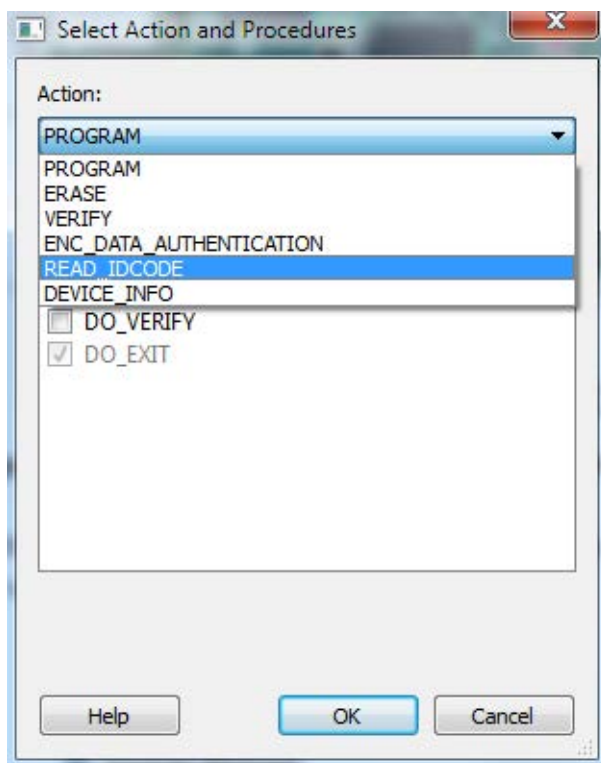

Figure 15 • Select Action and Procedures Window
6. Right-click on **Run PROGRAM Action** and select **Configure Action/Procedures**. Figure 15 shows **Select Action and Procedures** Window.